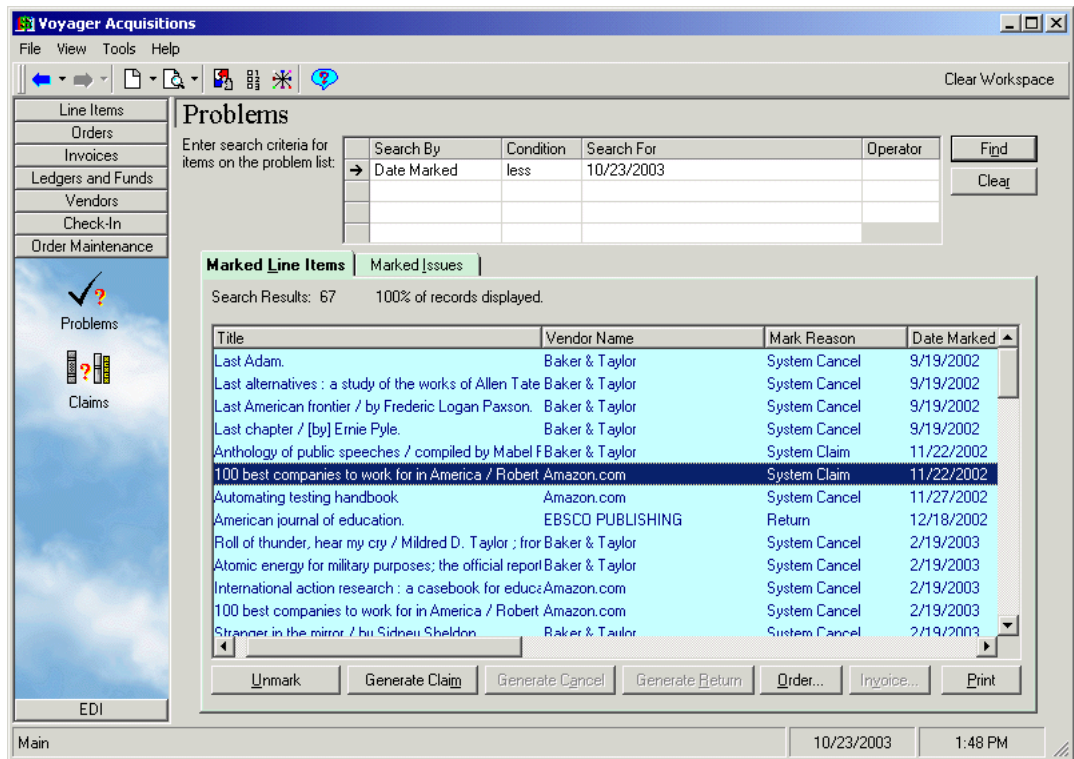

Figure 2-104. Problems workspace search results
7. To process an item, select it and click the wanted action button (see Figure 2-104). See Problems Workspace on page 11-16.